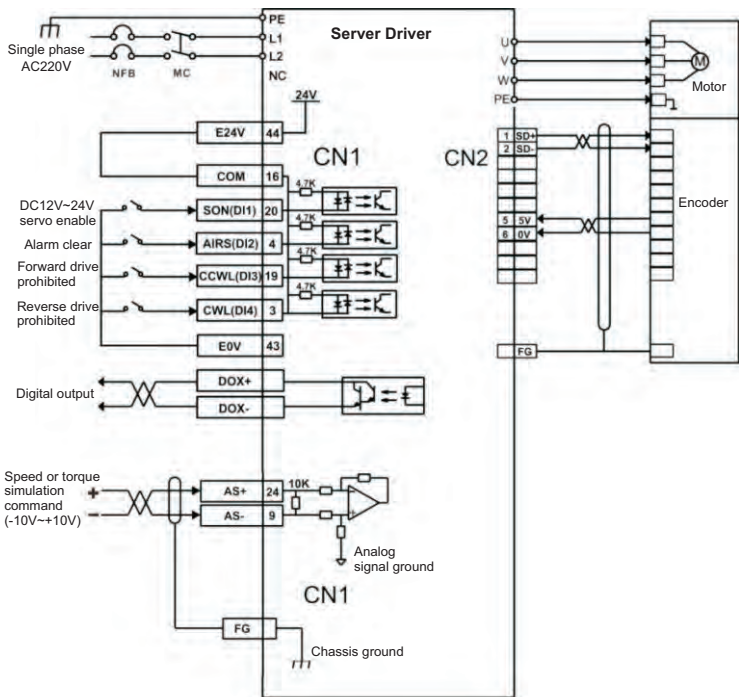

Figure 5.4 Speed mode wiring diagram
- ❶ Properly connect the power supply of the servo main circuit and the control circuit, as well as the motor power cord and encoder line, the servo panel displays "r 0" after powering on, which means that the servo power supply and encoder wiring is correct.
- ❷ The servo JOG test run is carried out by pressing the button to confirm the normal operation of the motor.
- ❸ Refer to Figure 5.4 wiring to explain the required DI/DO signals in the connection CN1 terminal, such as servo enablement, alarm clearing, positioning completion signal, etc.
- ④ Set the speed mode. Set the DI/DO used based on the actual situation.
- ⑤ Servo enable, through the upper machine issued position command to control the rotation of the servo motor. First rotate the motor at low speed and confirm that the rotation direction and electronic gear ratio are correct, and then make a gain adjustment.